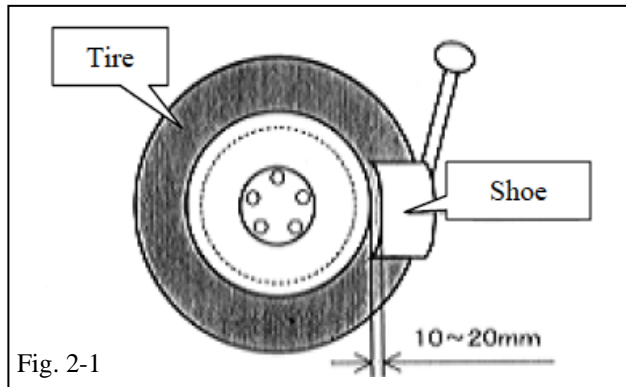

Fig. 2-1
- (c) Carefully separate the upper tire bead from the wheel rim. (Fig. 2-1).